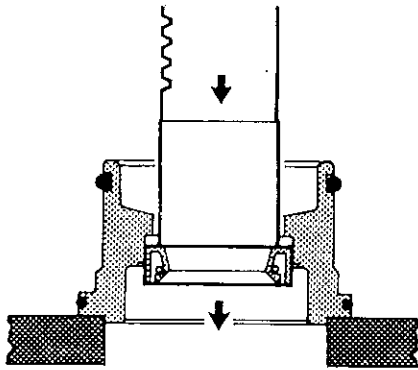

Figure 5.13
20. Support the bearing retainer and press out the drive shaft seal (11). See Figure 5.13.